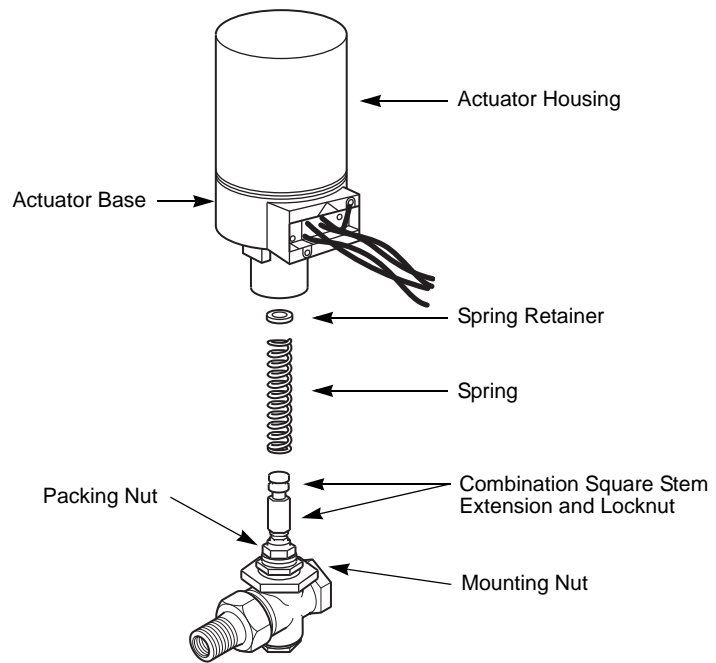

Figure-4 Installation of AV-600.
2. Thread the correct stem extension several threads on to the valve stem (Figure-4).
**Caution:** Do not twist or exert any force on the actuator housing during installation (Figure-4). Either turn the base of the actuator by hand or, if necessary, use a 1-5/8" open end wrench (TOOL-37) on flats provided on the actuator base and valve body mounting nut (Figure-4).
6. With the valve stem in the up position, place the spring over the valve stem (Figure-4).